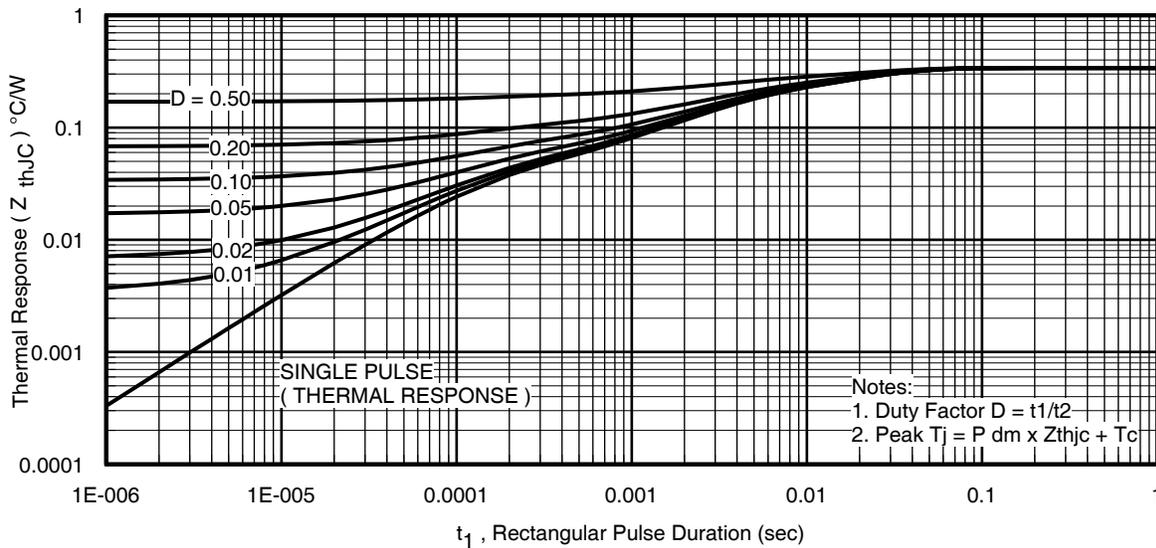

Fig 14. Maximum Effective Transient Thermal Impedance, Junction-to-Case
7. ΔT = Allowable rise in junction temperature, not to exceed T_{jmax} (assumed as 25°C in Figure 14, 15).
$Z_{thJC}(D, t_{av})$ = Transient thermal resistance, see Figures 14)